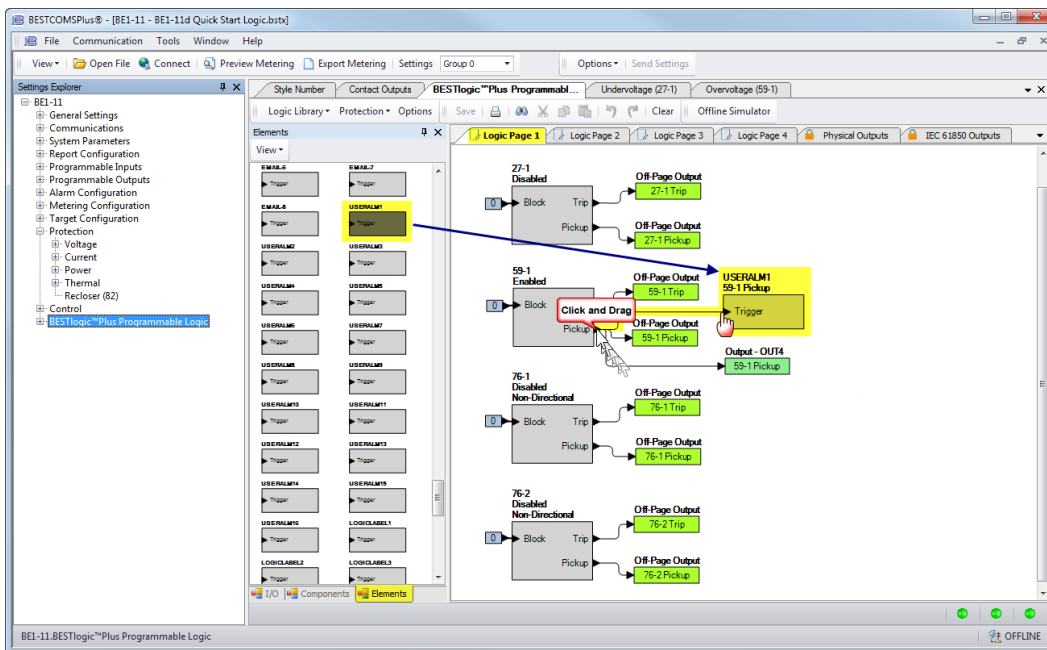

Figure 2-15. BESTlogicPlus Programming User Alarm 1
Step 9: In this step, the Pickup output of the 59-1 element is connected to User Alarm 1. When the Pickup output of the 59-1 element is true, the label of the user alarm is displayed on the Alarms screen on the front-panel display and in the fault report and/or sequence of events report. The label is named in Step 12. Click the Logic Page 1 tab and then click the Elements tab at the bottom. Locate the User Alarm 1 element. Click and drag USERALM1 over to the logic diagram. Click on the Pickup output of the 59-1 element and drag to the input of USERALM1 to make a connection. Refer to Figure 2-15.